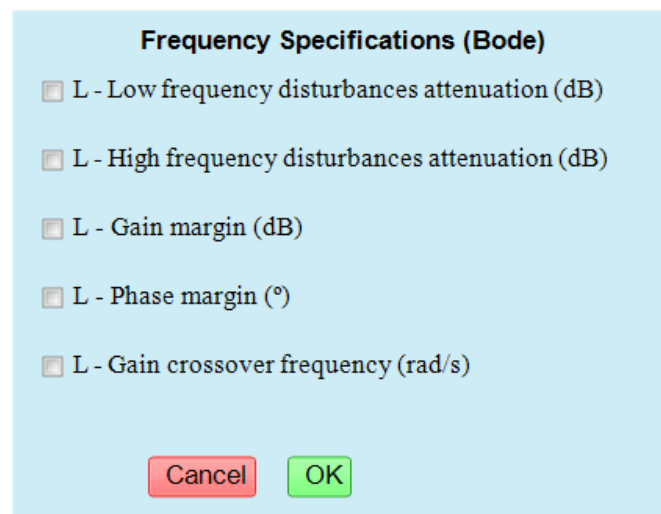

Figure 24. Auxiliary window to configure the frequency specifications on the Bode plot. In this example, the specification LF is enabled
1. Click on the button *Frequency specifications*. An auxiliary window (see Figure 24) is shown on the screen. Note that the specifications that appears in the auxiliary window depends on the selected frequency response diagram: Bode, polar or Nichols (see Table 1).
1. Click on the button *Frequency specifications*. When the user executes this action, an auxiliary window (see Figure 24) is show on the screen.